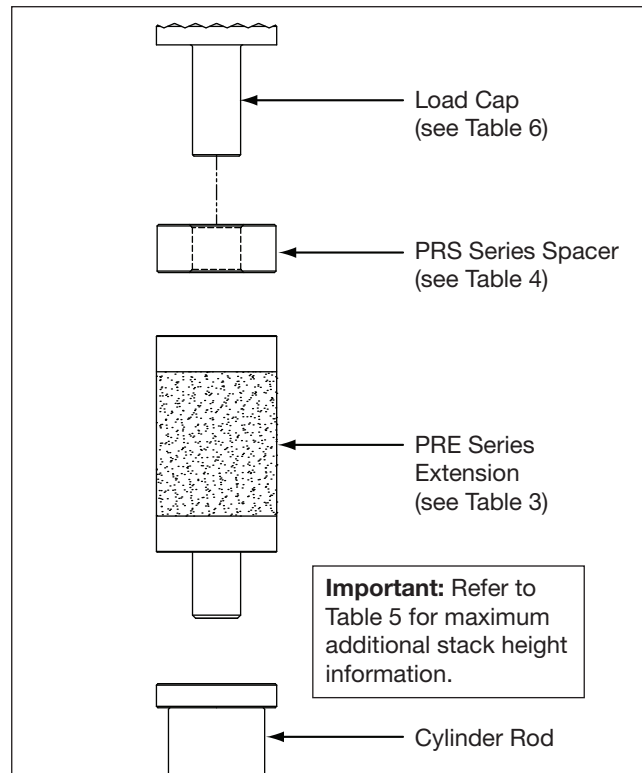

Figure 4, Extension and Spacer Installation (typical)
5.4 Stacking Instructions - Extensions and Spacers (See Figure 4)